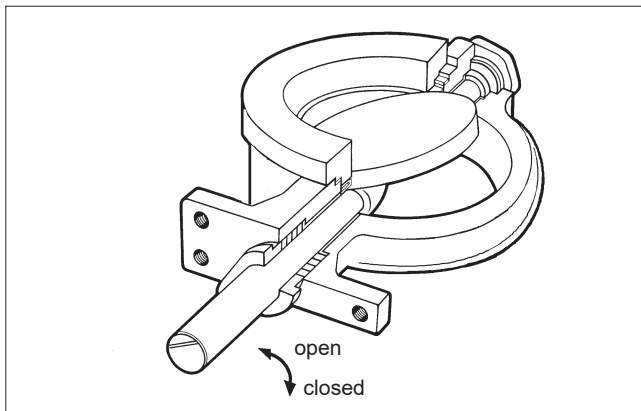

Fig. 12 Open and closed positions of the valve
The marking line parallel to the disc on the valve shaft head shows roughly the closed position of the disc (see Fig. 12).
- Check the position between the seat ring and the disc. The valve closes clockwise (see Fig. 12).
- Press the shafts into the disc drillings. Align the pin holes. The shaft (11) position against the disc must be according to Fig. 12
- Install the gasket (18) and the blind flange (10). Screws of the blind flange must be tightened evenly. An unevenly tightened flange will damage the seat.
- Install the body seal (19) and the clamp ring (2). See details in Section 5.5.
- Check the contact line between the seat ring and the disc (see Fig. 12).